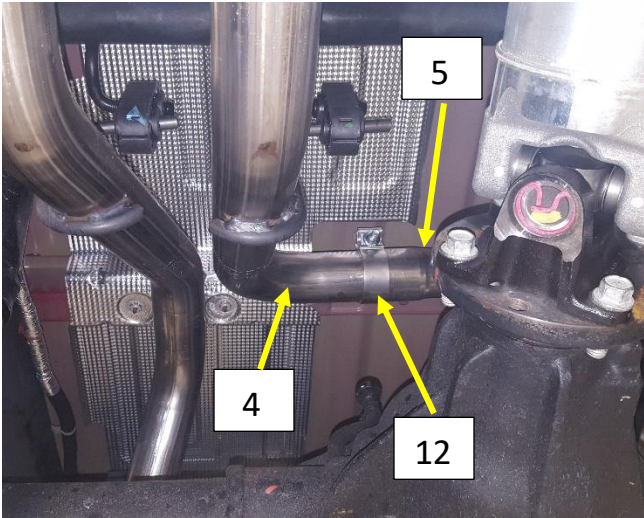
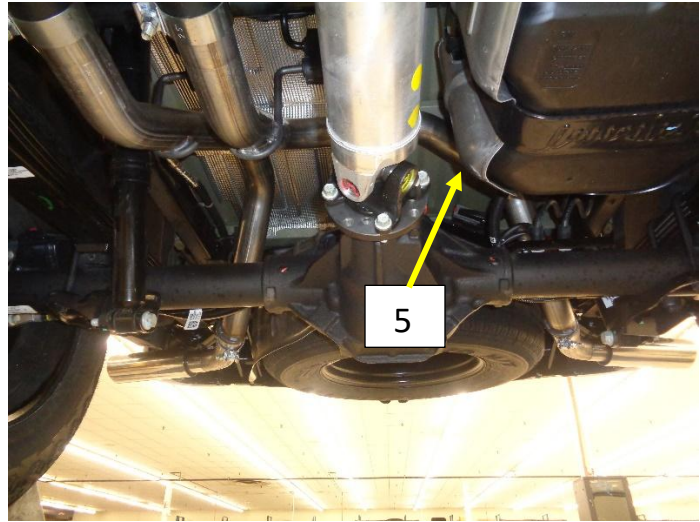

Figure.12
Figure.13
15. Install a 2.5" band clamp (12) on to the expanded end of the left tail pipe B (5). Position the clamp with the bolt at the top of the pipe and the nut facing the Drive shaft. Fig.12
16. Install the left tail pipe B (5) on to the tail pipe A above the rear axle. Fig.12 /Fig.13